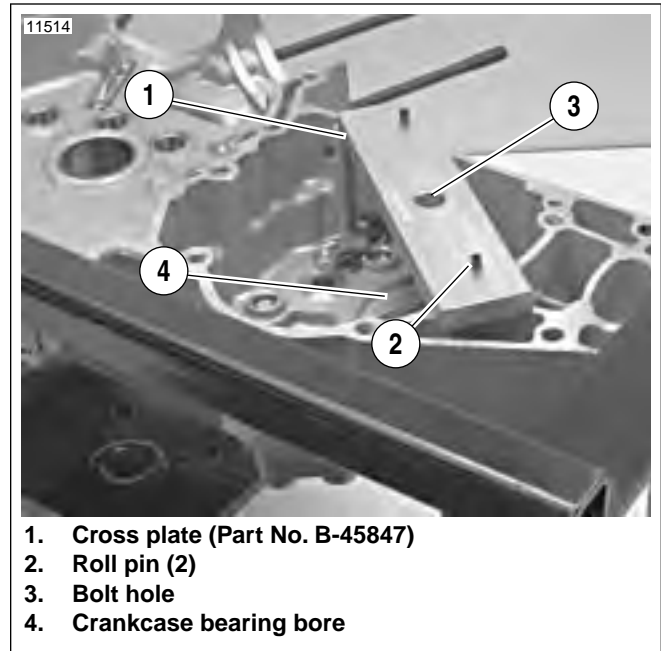

Figure 6-74. Positioning Cross Plate (Typical)
1. See Figure 6-74. Place CROSS PLATE (Part No. B-45847) (1) on right crankcase as shown. Position cross plate so that roll pins (2) fit into crankcase mating screw holes and bolt hole (3) in cross plate is centered over crankcase bearing bore (4).